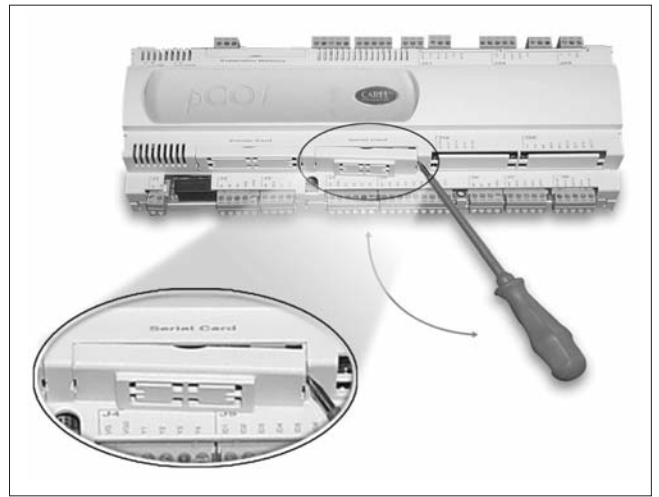

fig. 1
To install the card in the pCO unit respect the following instructions (Fig. 1...4):
1. remove the "serial card" placement cover with a screwdriver (Fig. 1);